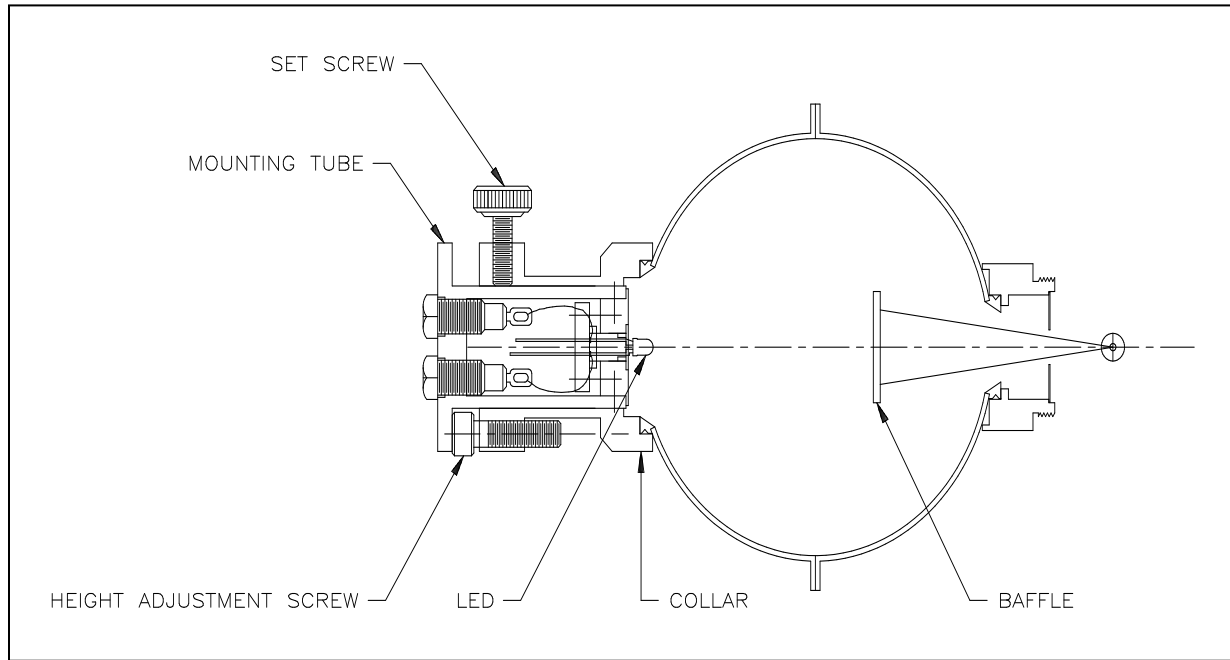

FIGURE 85 – IS-730 INTERNAL VIEW
The IS-730 is a 3-inch sphere designed to measure the total luminous flux (lumens) or radiant flux (watts) of LEDs or other small sources such as miniature lamps. This accessory consists of a sphere with an internal baffle and LED Mounting Tube (See Figure 85). During operation, the LED is inserted into the interior end of the Mounting Tube, the Adjustment Screw is set so that the tip of the LED protrudes precisely 0.100 inches into the sphere, and the measurement is conducted. The power cables for the LED (plus and minus current) are connected via mini banana jacks located on the anterior end of the mounting tube.
1. Loosen the Set Screw (see Figure 85) by turning it counterclockwise.